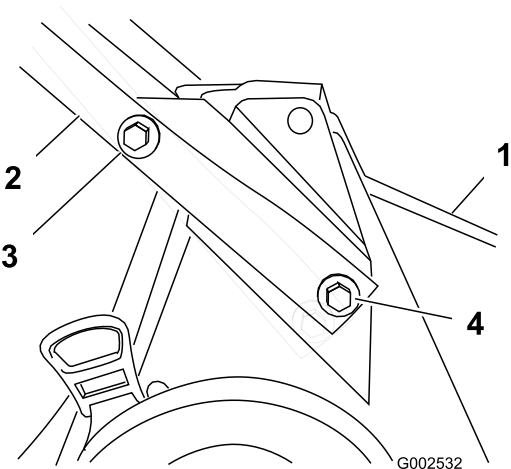

Figure 3
1. Mount the handle to the mower housing with 2 bolts (5/16 x 7/8 inch), 2 bolts (5/16 x 1-1/2 inches), 4 washers, and 4 locknuts (Figure 3).